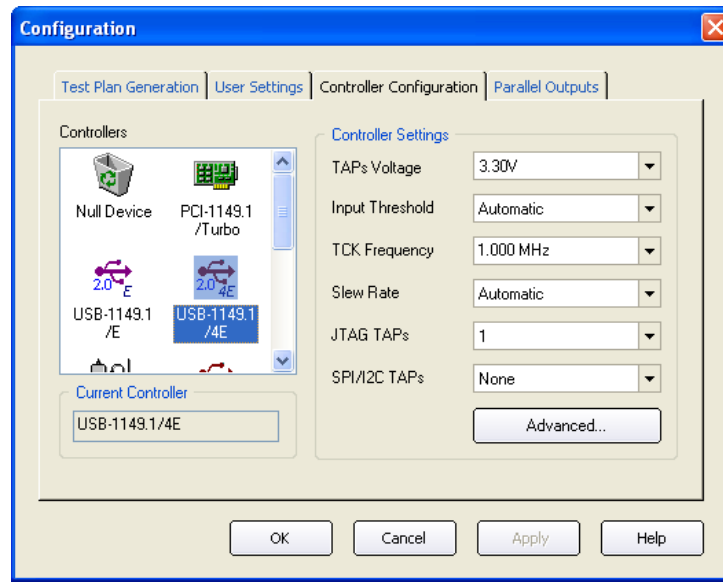

Figure 4-2. USB-1149.1/4E Setup Screen
6. Once ScanExpress Runner finds the USB-1149.1/4E controller, it displays a screen similar to Figure 4-2.